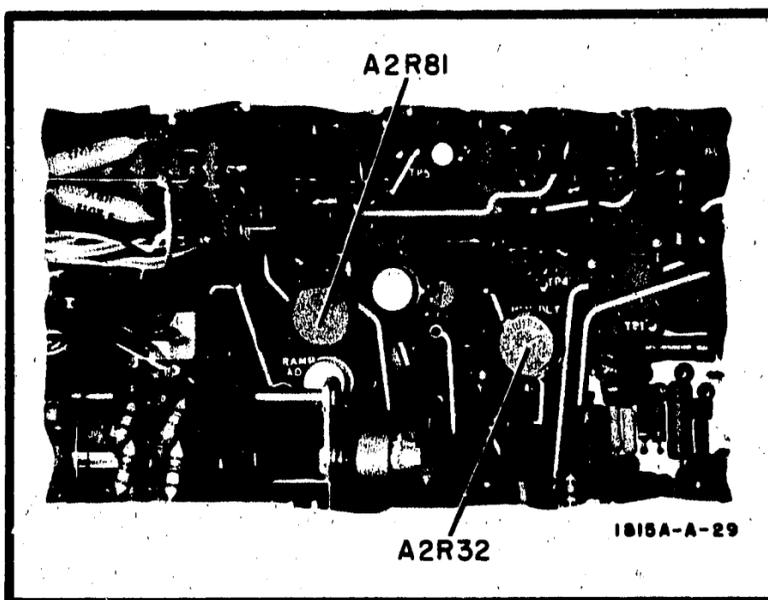

Figure 5-17. Time and Delay Adjustments
- e. Adjust MIN DLY potentiometer A2R32 so that the start of the leading edge of the first pulse occurs at approximately the third graticule line. (See Figure 5-17 for location of A2R32.)